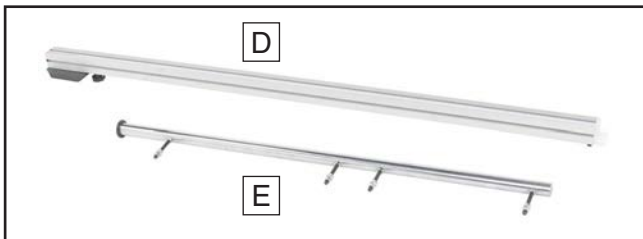

Figure 12. Box 2 & 3 contents.
- Box 2 & 3: (Figure 12)** Qty